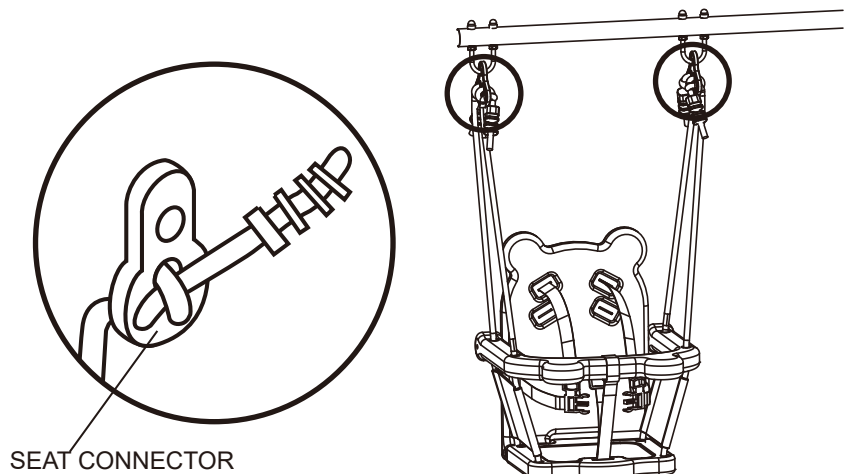

FIGURE 23
- Make sure the knots are tight and that both ropes are adjusted so that the seat is horizontal as shown in Figure 23.